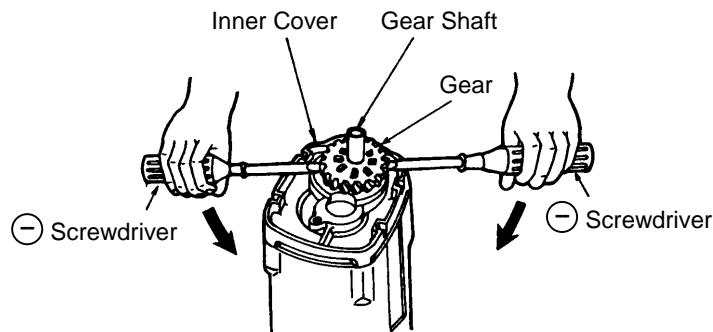

Fig. 6
As shown in Fig. 6, insert two minus screwdrivers between the inner cover and gear (14) at each side and remove the gear (14), gear shaft (15) and bearing (16) from the inner cover as a single unit.